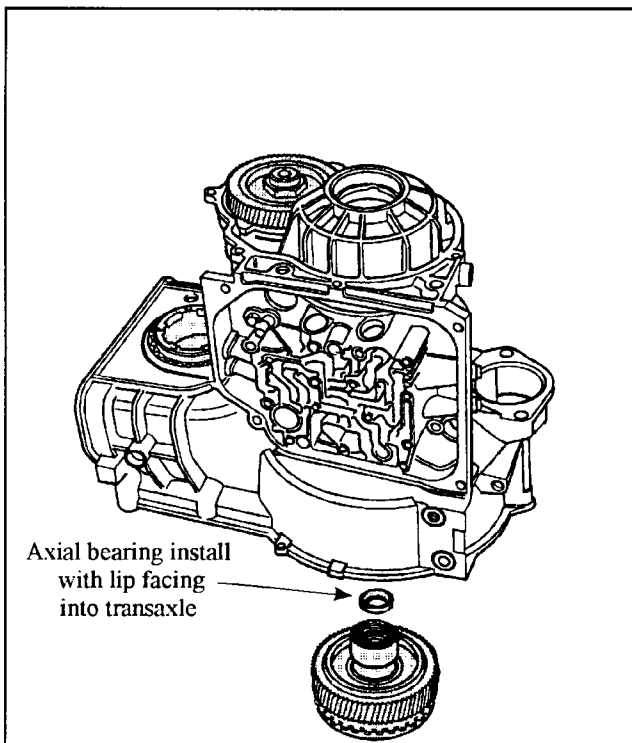

Figure 139
1. Place the transaxle on a workbench and insert the output ring gear into the transaxle (See Figure 139).
3. Install the axial bearing into the output ring gear, with the lip facing into the transmission (See Figure 139).